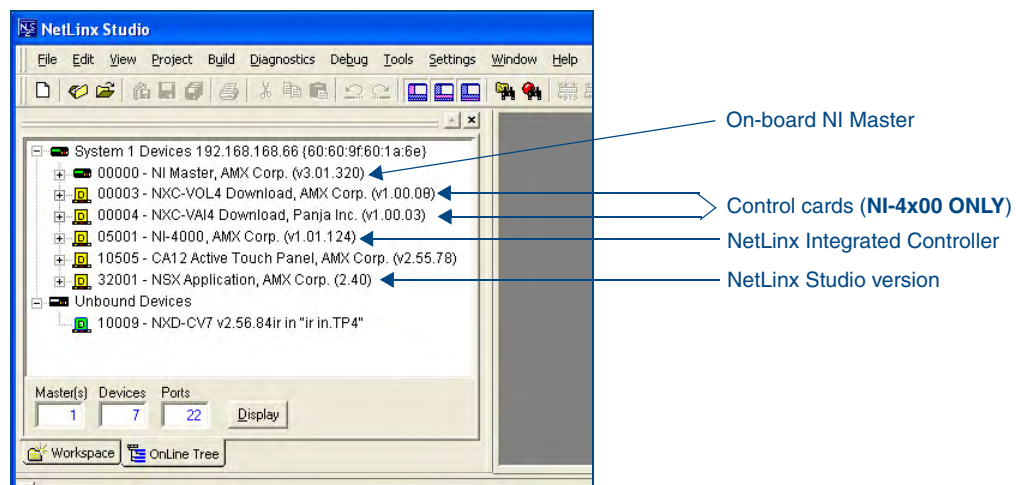

FIG. 9 Sample NetLinX Workspace window (showing OnLine Tree tab)
2. After NetLinX Studio has established a connection to the target Master, click the **OnLine Tree** tab of the Workspace window to view the devices on the System. *The default System value is one (1).*
4. After the Communication Verification dialog window verifies active communication between the PC and the NI unit, verify the NetLinX NXC Control Cards appear in the **OnLine Tree** tab of the Workspace window (FIG. 9).